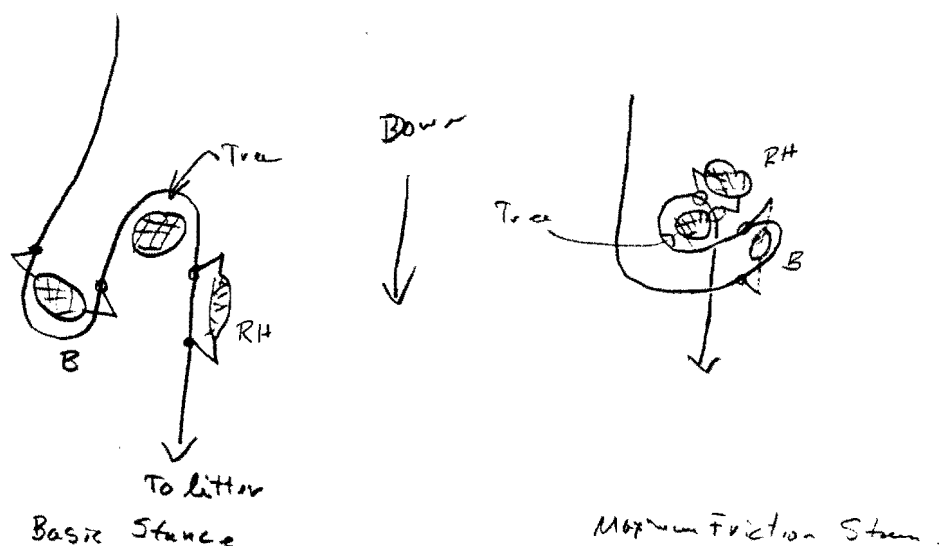

Figure 6.8. Tree-Wrap Belay.
Sufficient friction for most rescue can be had by belaying to a tree, as illustrated in figure 6.8, but if the belayer feels the need for a tie-in, the
Figure 6.8 illustrates tree-wrap belay configurations for an ascending litter; in a descent, the rope handler (RH) is employed